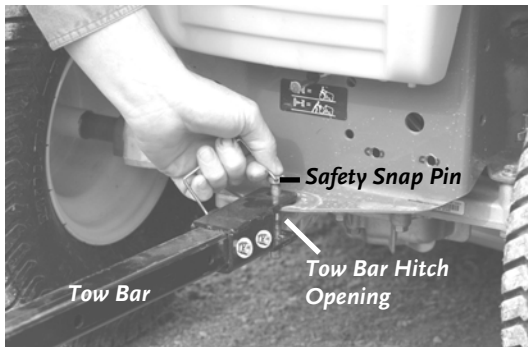

Figure 14
1. Set the parking brake on your Lawn Tractor, lift the Tow Bar, and position the Tow Bar Hitch so that the Hitch Plate on your Lawn Tractor is in the opening in the Tow Bar Hitch (**Figure 14**).
2. Align the hole in the center of the Hitch Plate on your Lawn Tractor with the holes in the Tow Bar Hitch. Insert the Safety Snap Pin and attach the Safety Hitch Clip (**Figure 14**).